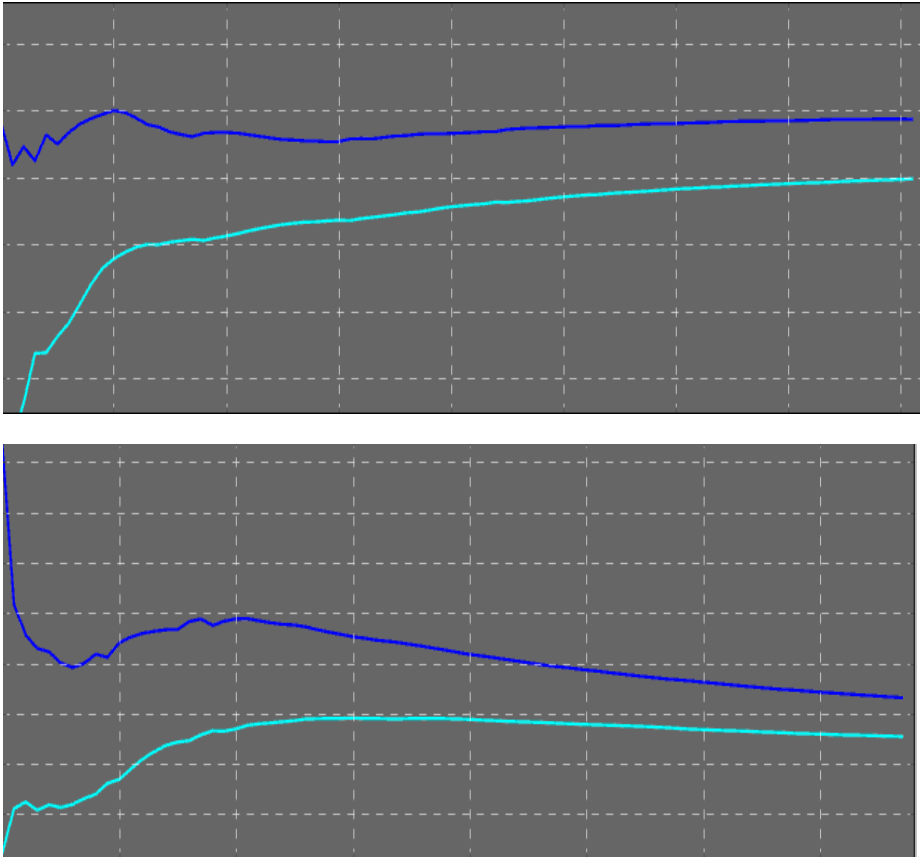
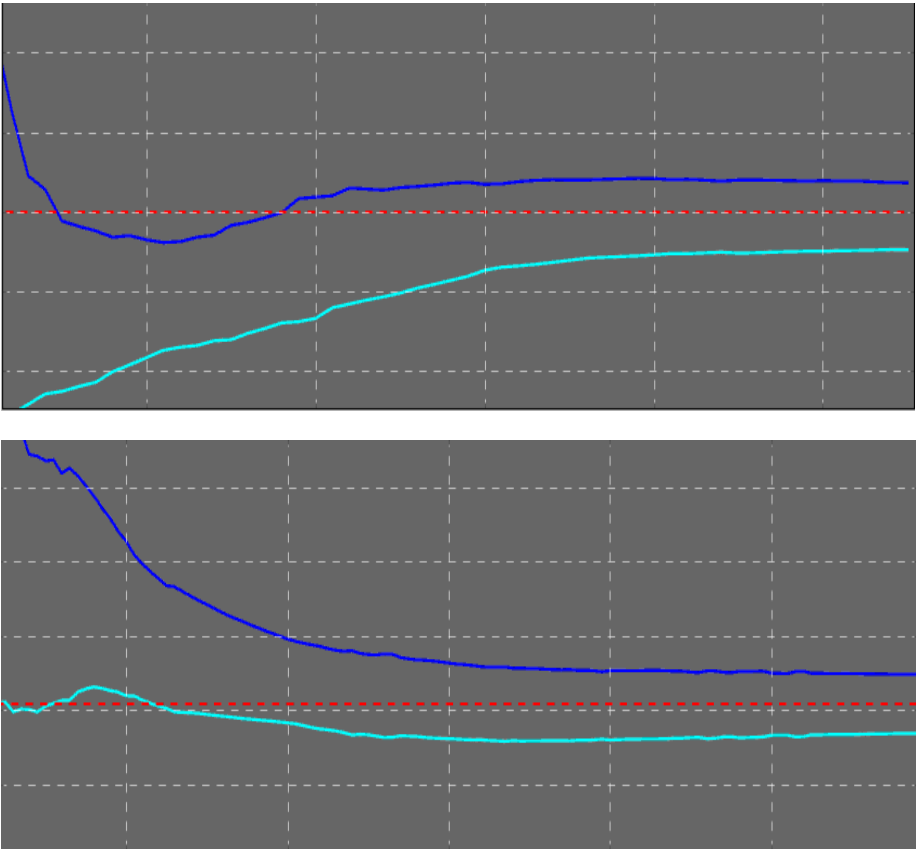

Figure 2.14 – Unstable trend band
Figure 2.15 – Stable trend band
2.4 In reality, the band almost always behaves in a different way. If the band during measurement clearly deviates from a horizontal direction (moves up or down), it means that spectrum balancing processes are not steady yet (Figure 2.14 illustrates some examples of the unstable band). In order to get more reliable measurement results you should wait until the band begins moving in a stable horizontal direction (Figure 2.15 illustrates the examples of a gradual change for a stable measurement mode).